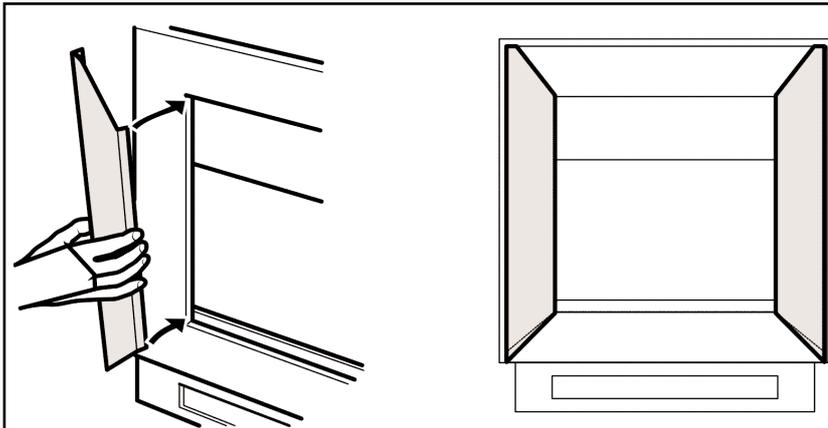

Figure 27 Fitting the side trims.
3.3 Locate the two side trims as in figure 27